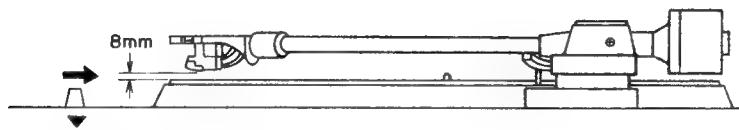

Fig. 11
- 3) Put a record on and set the elevation control to **▼**. Adjust screw (a) until there is an 8 mm gap between the tip of the stylus and the surface of the record. (Refer to Figs. 11, 12.)